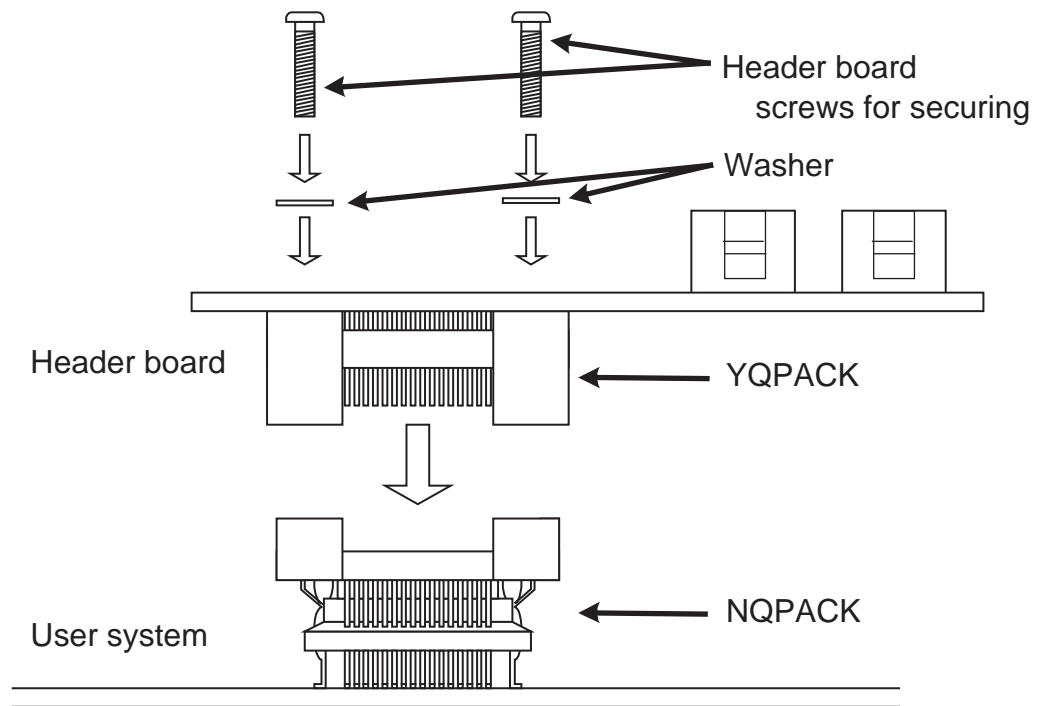

Figure 4 Header board connection
2. Insert each header board mounting screw for header board in each of the four tapped holes on the header board through a washer, and then first tighten the screws in opposing corners followed by the two remaining screws. (See Figure 4.)